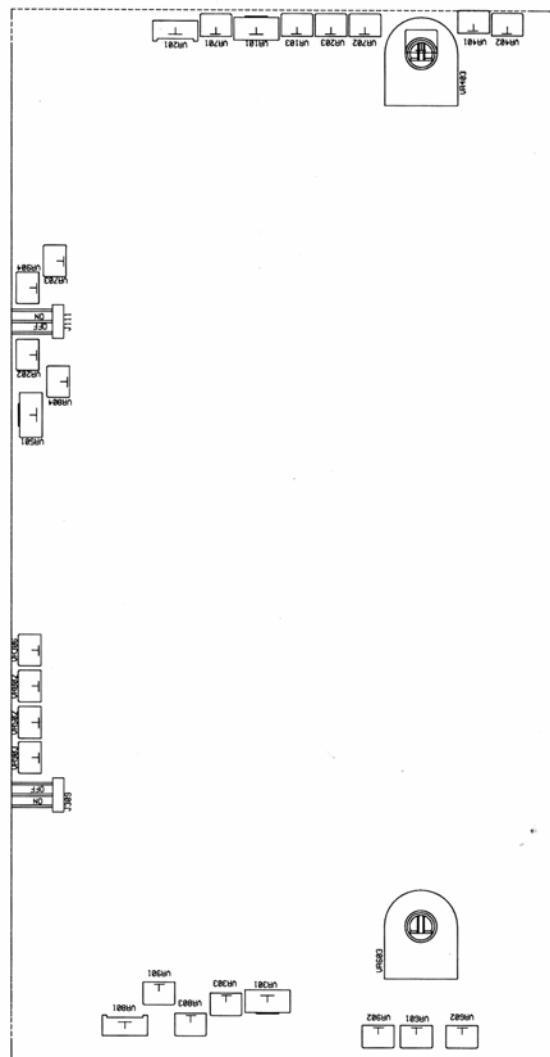

Fig. 6-1. Adjustment Location
(6) Dynamic Load Operation & Application
- A. When select to dynamic load position, the max peak current is at 1.7 times rating current. The features are only applied for audio circuit of amplifier and audio production lines. Change the position of wafer J111 of CH1 and J309 of CH2 from “OFF” to “ON”. Please refer to Fig.6-1 Adjustment Location.
(7) Output ON/OFF Action
If readjustment is required, use the following procedure. The location of the adjustments is shown in Fig. 6-1.